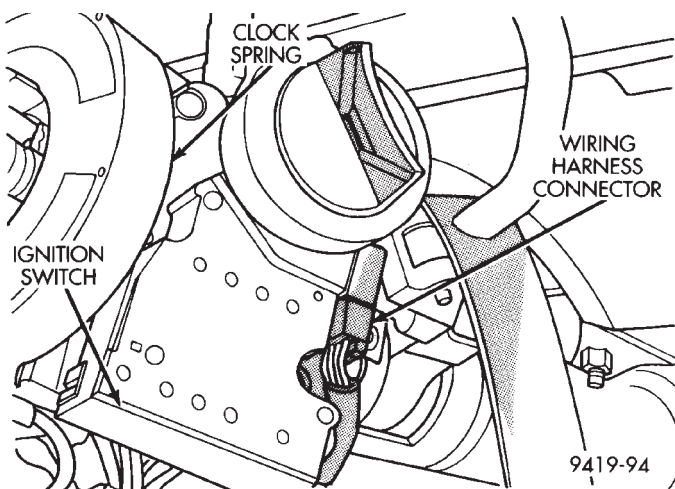

Fig. 19 Wiring Harness Connection For Key Light Switch
- (6) Install wiring harness connector for key light switch connection, onto the ignition switch (Fig. 19).